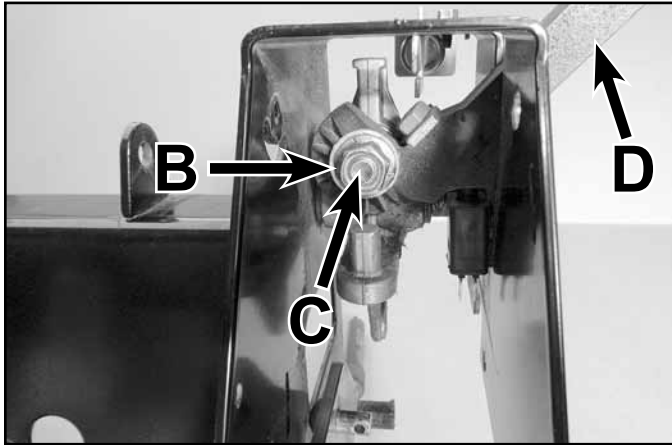

Fig. 032
3. Remove the actuator arm nut (B) and (2) washers.
4. Remove the shoulder bolt (C), actuator arm (D) and the (2) washers from the activator arm (E) (Fig. 032).